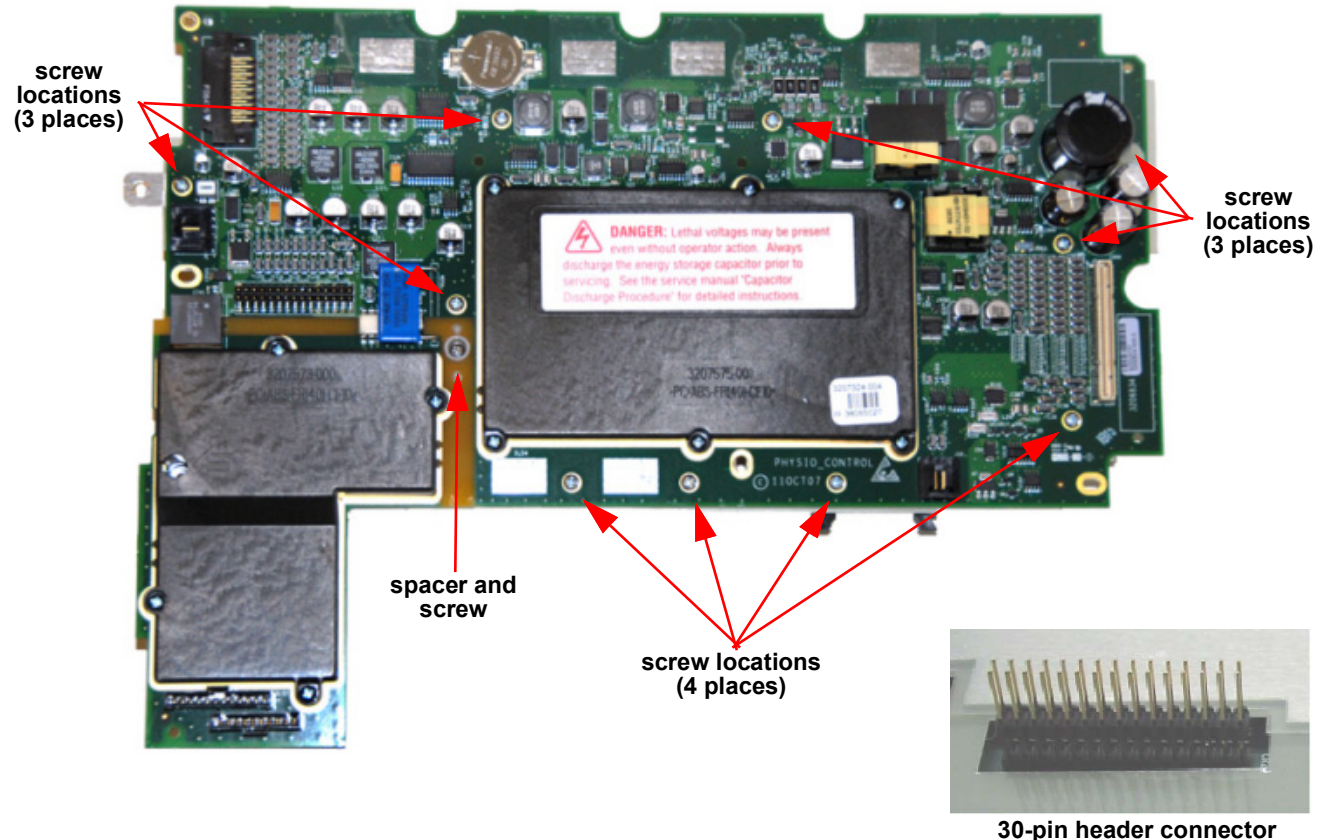

Figure 8.46—System/therapy PCB screw locations
4. Align the system PCB (REF A01) with the mounting bracket and 30 pin header into J5. Fasten with ten new screws (REF F06); torque to 6.8 in-lb (see Figure 8.46 on p. 245).